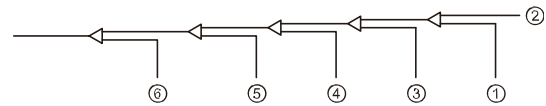

Fig. 53 —Flush Other Openings from Indoor Unit A Towards the Outdoor Units
8. Flush the other openings in the same manner, working in sequence from indoor unit A towards the outdoor units. Refer to Fig.53.